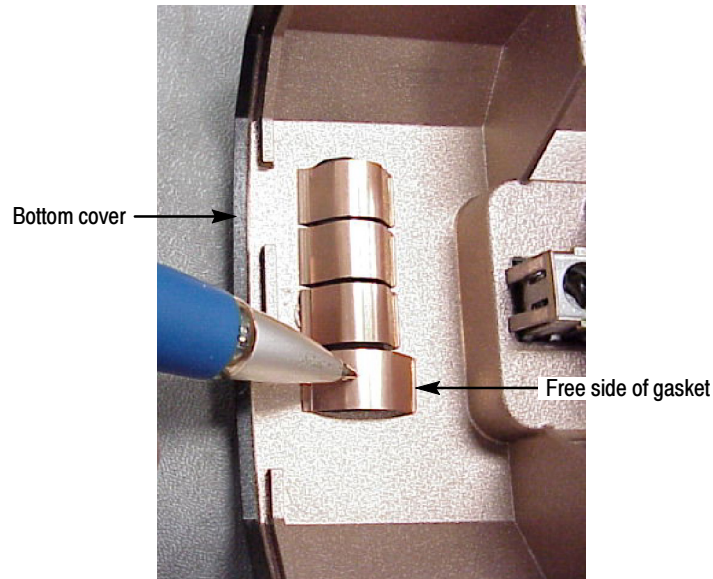

Figure 7: Apply Gasket to bottom cover
2. Position the gasket (see Figure 7), noting the position on the bottom cover, and the direction of the free side of the gasket.